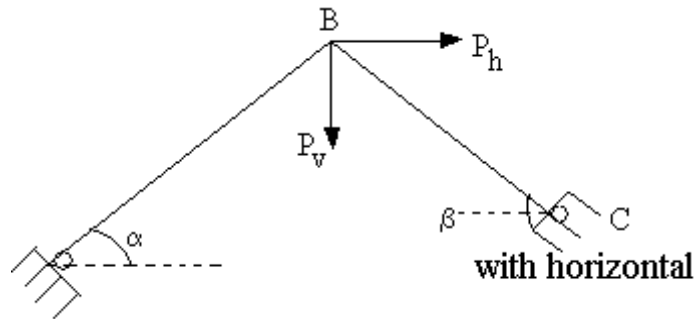

Figure 2:
5. In the pin jointed frame shown in Figure 2, if joint B undergoes horizontal and vertical displacements of magnitude δ_u, δ_v respectively. Find the magnitude of the load that is applied at B. If A_1, A_2 and L_1, L_2 represent the area of c/s and lengths of the members AB and BC respectively, with E as modulus of elasticity then what shall be the force required if the joint B has no horizontal shift. [16]